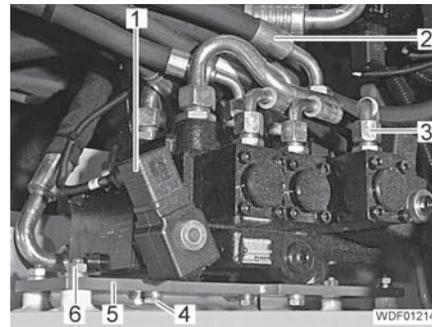

Fig. 165 Topside of the control valve
- Unscrew 1 screw on each of the connectors (Fig. 165,1), pull the connectors off and protect the contacts (e.g. with a protective cap).
- Unscrew and close off the hydraulic lines (Fig. 165,3).
- Unscrew and close off the hydraulic lines (Fig. 165,2).
- Unscrew the 4 nuts (Fig. 165,6).
- Unscrew the 4 screws (Fig. 165,4) and remove the metal plate (Fig. 165,5).